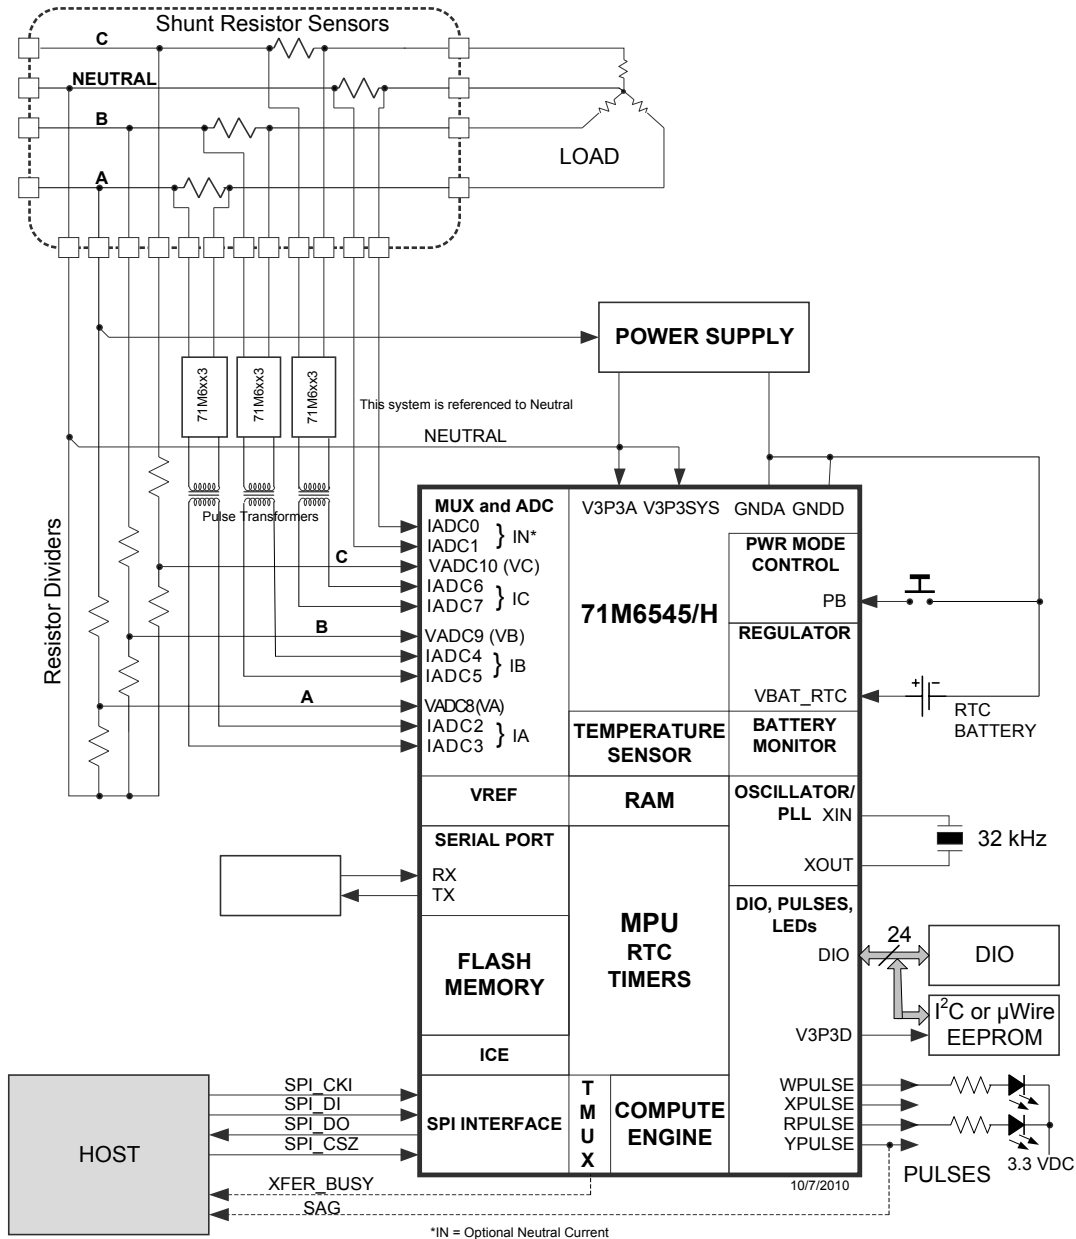

Figure 27: System Using Three-Remotes and One-Local (Neutral) Sensor
Figure 27 shows a typical connection for current shunt sensors; using the 71M6xx3 (poly-phase) isolated sensors. Note that one shunt current sensor is connected without isolation, which is the neutral current sensor in this example (connected to pins IADC0-IADC1). Each 71M6xx3 device is electrically isolated by a low-cost pulse transformer. The 71M6545/H current sensor inputs must be configured for remote sensor communications, as described in 2.2.8. Flexible remapping using the I/O RAM registers *MUXn_SEL[3:0]* allows the sequence of analog input pins to be different from the standard configuration (a corresponding CE code must be used). See Figure 2 for the AFE configuration corresponding to Figure 27.
This section discusses metrology temperature compensation for the meter designs where current shunt sensors are used in conjunction with the 71M6xx3 remote isolated sensors, as shown in Figure 27.
Referring to Figure 27, the VADC8 (VA), VADC9 (VB) and VADC10 (VC) voltage sensors are always directly connected to the 71M6545/H. Thus, the precision of the voltage sensors is primarily affected by VREF in the 71M6545/H. The temperature coefficient of the resistors used to implement the voltage dividers
Table 57 shows the five $GAIN_ADJx$ equation output storage locations and the voltage or current sensor channels for which they compensate for the 1 Local / 3 Remote configuration shown in Figure 27.
Table 57: GAIN_ADJn Compensation Channels (Figure 2, Figure 27, Table 1)